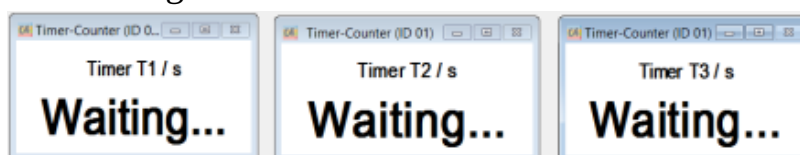

Figure 3.11: Waiting for measuring.
- 7- After loading the configuration file, a new window will appear as shown in Figure 3.11.